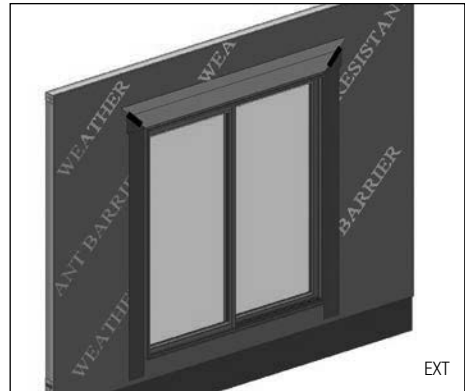

FIG. 17
- D) Flip down the top flap of the WRB. (Fig. 17)
- E) Tape the cut seams of the WRB. (Fig. 17)